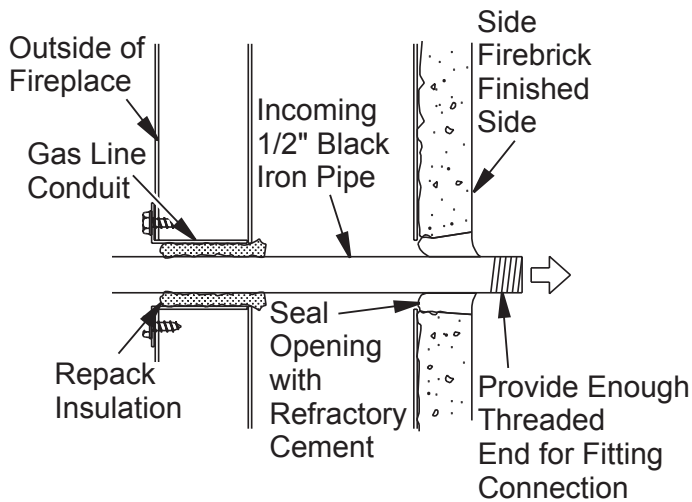

Figure 24 - Gas Line Installation
3. Run a 1/2" black iron gas line into fireplace through the rear at gas line conduit sleeve (if using a raised platform, add height). Provide sufficient gas line into fireplace chamber for fitting connection (see Figure 24, page 14).